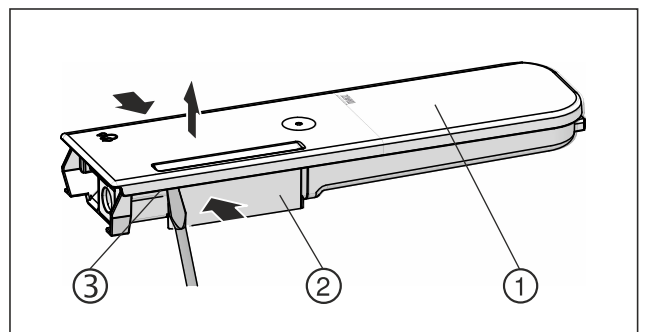

Fig. 146
- ▶ Push the water tanks *Fig. 146 (2)* together, leverage the cover *Fig. 146 (1)* carefully over the latching tabs *Fig. 146 (3)* and lift it up.
- ▶ Move the cover *Fig. 146 (1)* slightly forwards and back, and remove to the top.